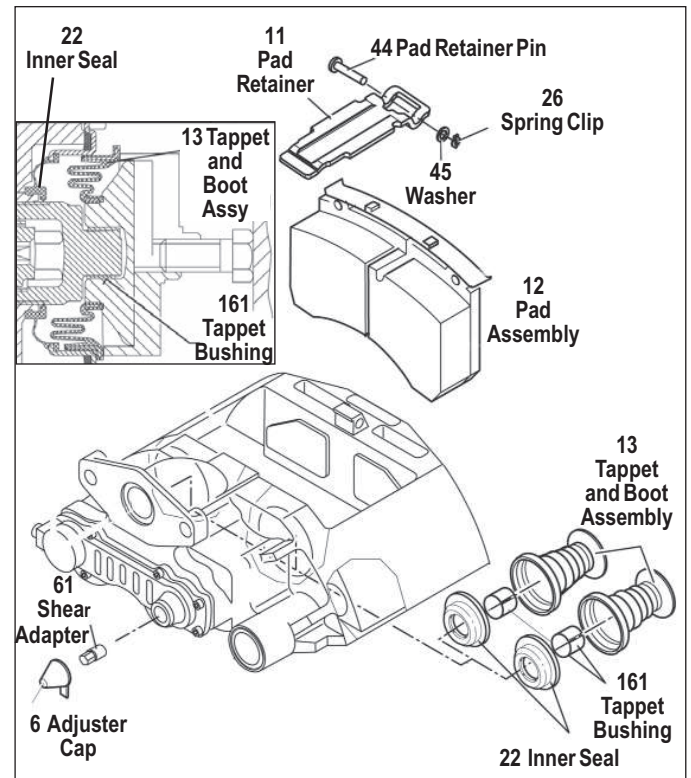

Figure 46 – ADB Exploded and Section Views
5.4.5 Reinstallation. Before installing the brake chamber, the actuator flange (See *Figure 46*, arrow "C") must be cleaned and inspected. Consult the vehicle manual. The spherical cup in the lever (19) must be greased with white grease (Part No. II14525 or K021964). Add grease to the rubber gasket on the chamber.